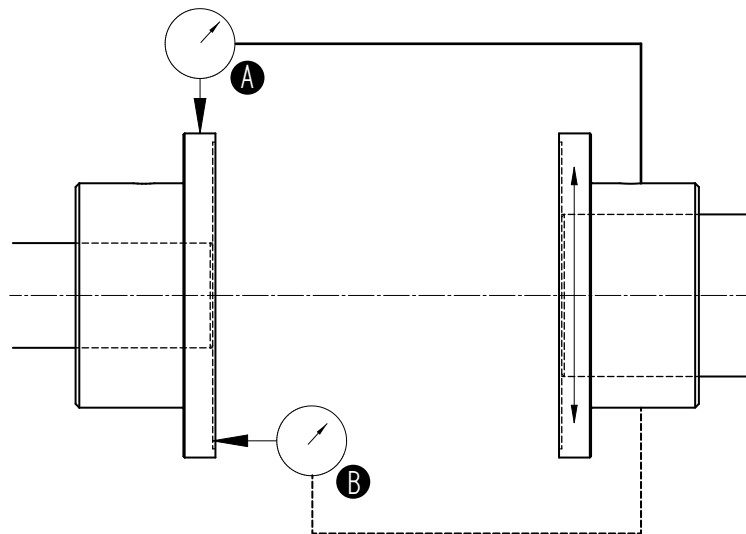

Figure 3: Aligning the coupling, A= Parallel, B= Angular.
For couplings use a dial indicator as figure 3 shown. The alignment values are maximums for continuous service, see paragraph 3.4.4 "Tolerances for aligning the coupling".
- 1 Mount dial gauge (A) on the coupling halve motor side, see figure 3.
- 4 Read dial gauge (A). Add or remove shims under the motor until the reading of the dial gauge is within the allowable tolerance, see paragraph 3.4.4 "Tolerances for aligning the coupling".
- 6 Remove dial gauge (A).
- 1 Mount dial gauge (B) on the coupling halve motor side, see figure 3.
- 4 Read dial gauge (B). Move the motor sideways until the deflection is halved, see paragraph 3.4.4 "Tolerances for aligning the coupling".
- 6 Remove dial gauge (B).